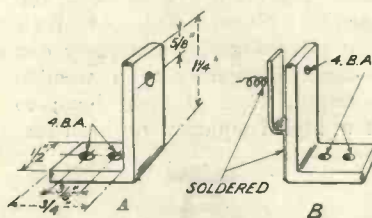

Fig. 7.—Dimensions for uprights.
The uprights are made from angle brass. They have both the same overall dimensions. The only difference between them is that that intended to take the spindle supporting the crystal cup (A, Fig. 7) has a 2B.A. clearance hole drilled  $\frac{3}{8}$  in. from its top edge, whilst the other (B) has a 4B.A. tapped hole whose centre is  $\frac{3}{16}$  in. from the top. The cat-whisker is made of thin brass wire coiled into a spiral by being wound tightly round a knitting-needle. It is fastened by means of solder to its bracket, which is made from a piece of springy sheet brass  $\frac{1}{8}$  in. wide bent as shown in the drawing. The bracket is soldered to the face of the upright.